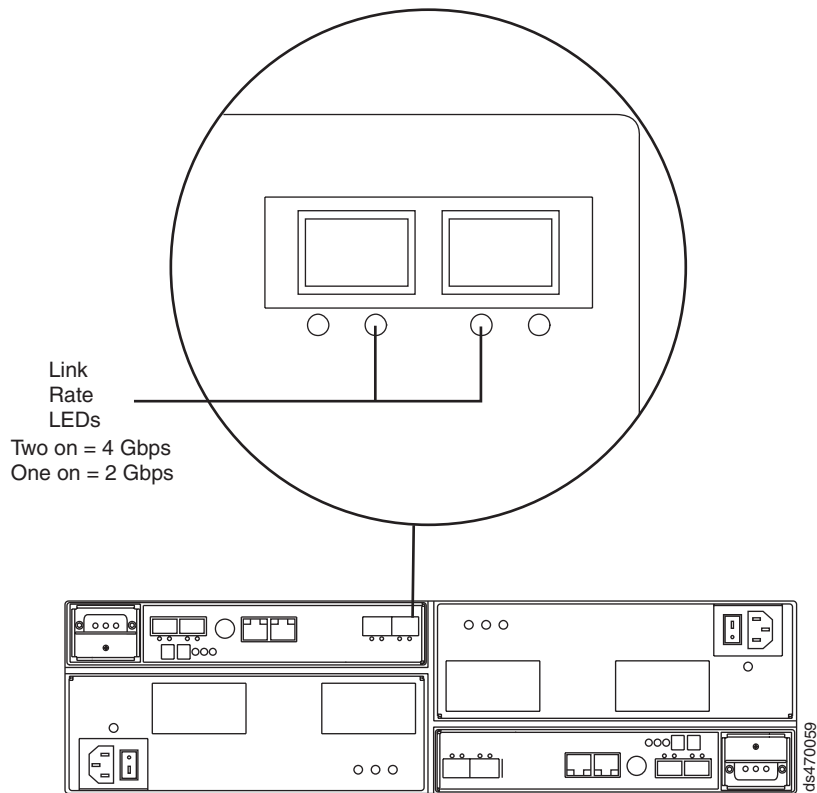

Figure 76. Link rate LEDs
2. Locate the Link Rate indicator LEDs. Figure 76 on page 122 shows the location of the Link Rate indicator lights on the back of the storage subsystem.
4. Locate the Link Rate switch. Figure 76 shows the location of the Link Rate indicator light on the front of the command module.